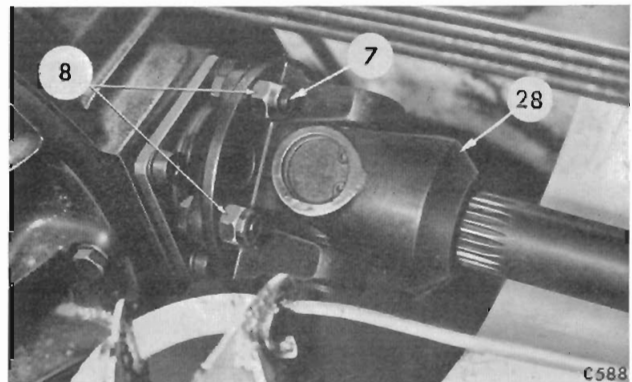

Fig. 55. Axle shaft universal coupling attachments
- the axle shaft coupling, Fig. 55 ;
3. Remove the damper (11), lower and remove the jack.